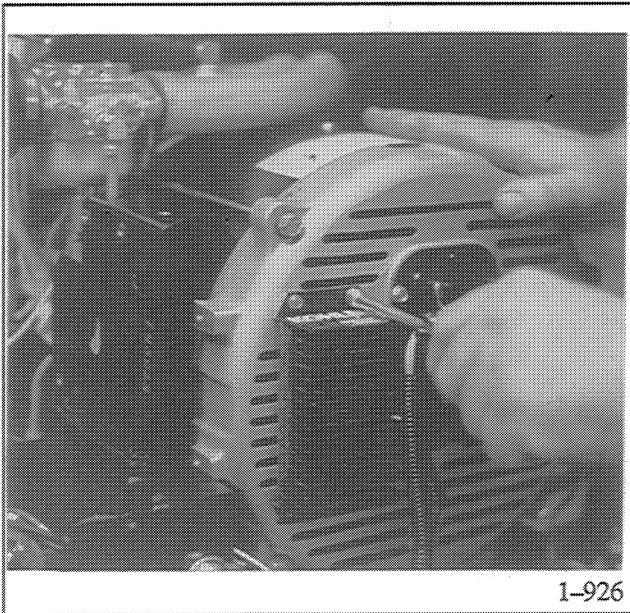

Figure 8-10. Removing Voltage Regulator
14. Remove four screws and remove voltage regulator using 1/4 in. nutdriver or socket wrench. See Figure 8-10.